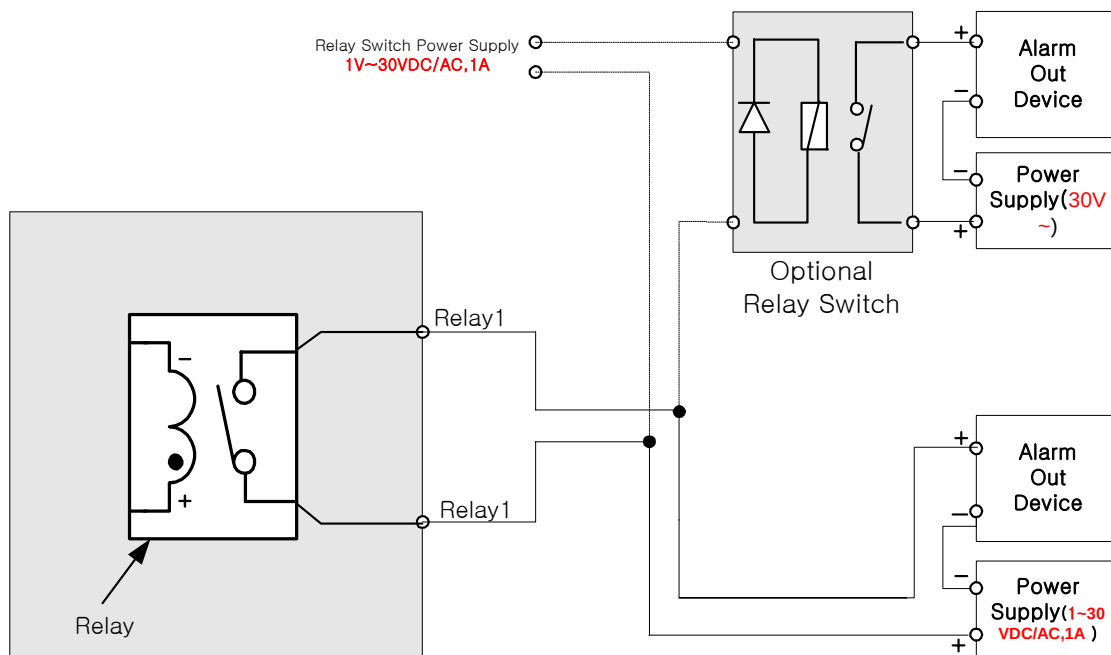

Fig. 6-5 Connection of Relay to Network Domes
3.2 Connection of Relay(Fig.6-5)